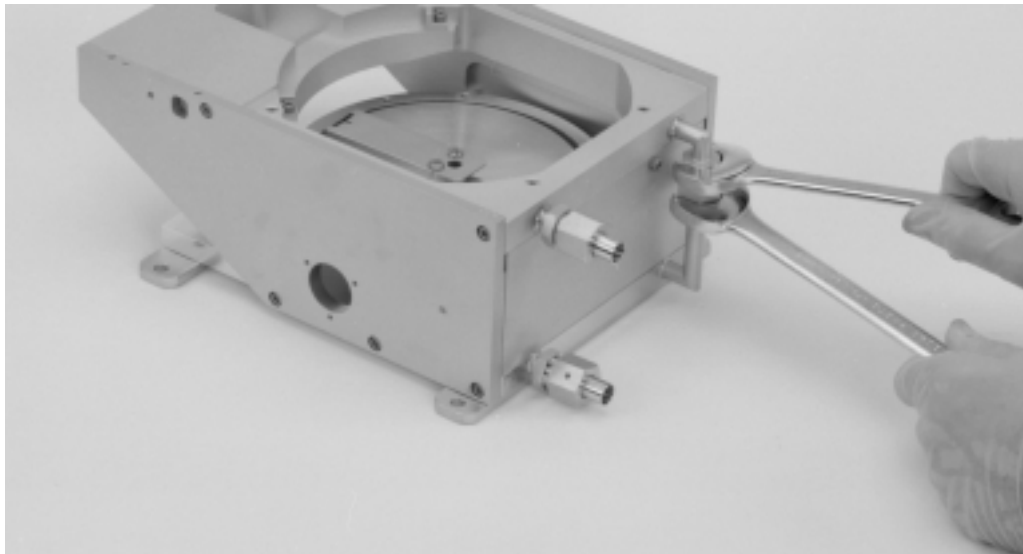

Figure 5-14. Uncoupling the water-crossover tube
Step 13: Uncouple the tube connecting the gun's upper and lower water circuits. Using appropriate wrenches, hold the nut soldered onto the fitting connected to the coil housing while turning the coupling on the fitting connected to the base plate (see Figure 5-14).